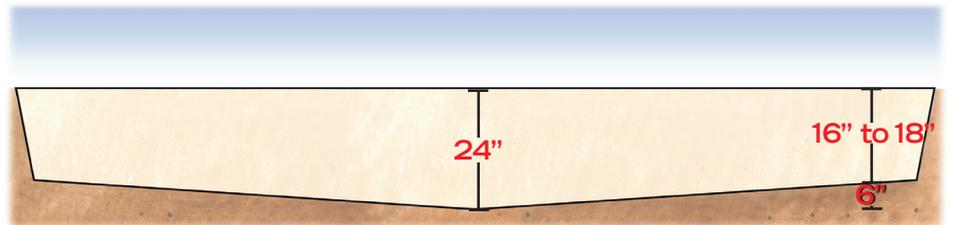

Figure 5
3. Slope the bottom of the excavated area 6" towards the middle. (Figure 5)